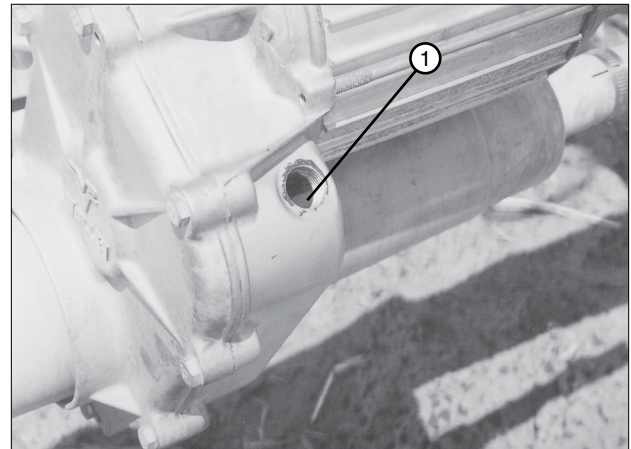

Figure 87-2 1. Bottom Of Fill Plug Hole
2. Fill the gearbox 1-7/8 in (48 mm) from the bottom of fill plug hole with Valley Gear Lube. The capacity of the gearbox is approximately 44 oz (1.3 liter). See figure 87-2.